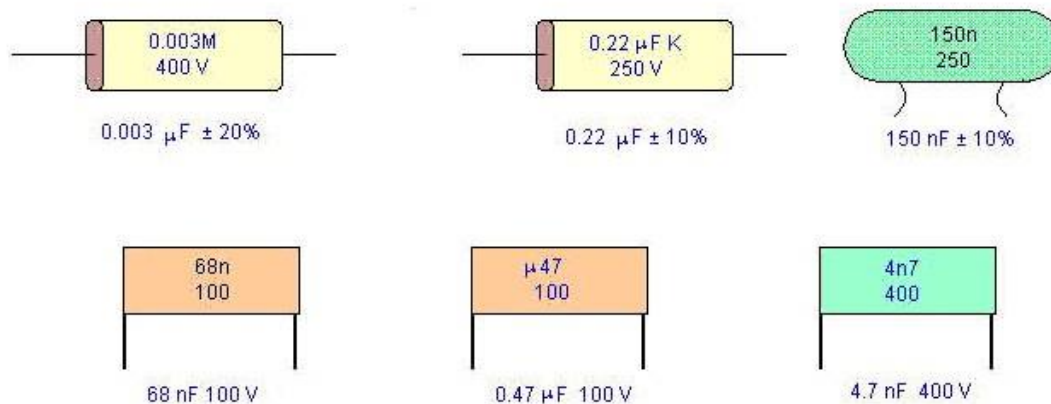

Figure 1: Plastic Film Types
- **Capacitor Identification Codes:** There are no international agreements in place to standardize capacitor identification. Most plastic film types (Figure 1) have printed values and are normally in microfarads or if the symbol is n, Nanofarads. Working voltage is easily identified. Tolerances are upper case letters: M = 20%, K = 10%, J = 5%, H = 2.5% and F = $\pm 1\text{pF}$.